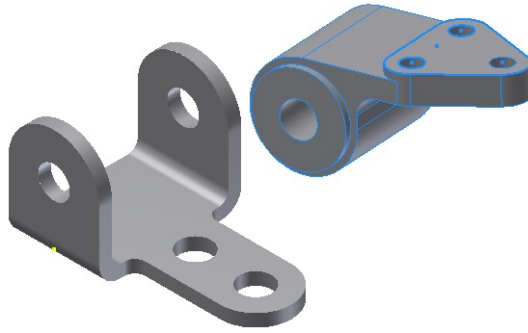

Figure 9-103 *Placing the sub-assembly in the main assembly*
5. Use the **Free Move** tool and the **Free Rotate** tool to place the sub-assembly at the position shown in Figure 9-103.